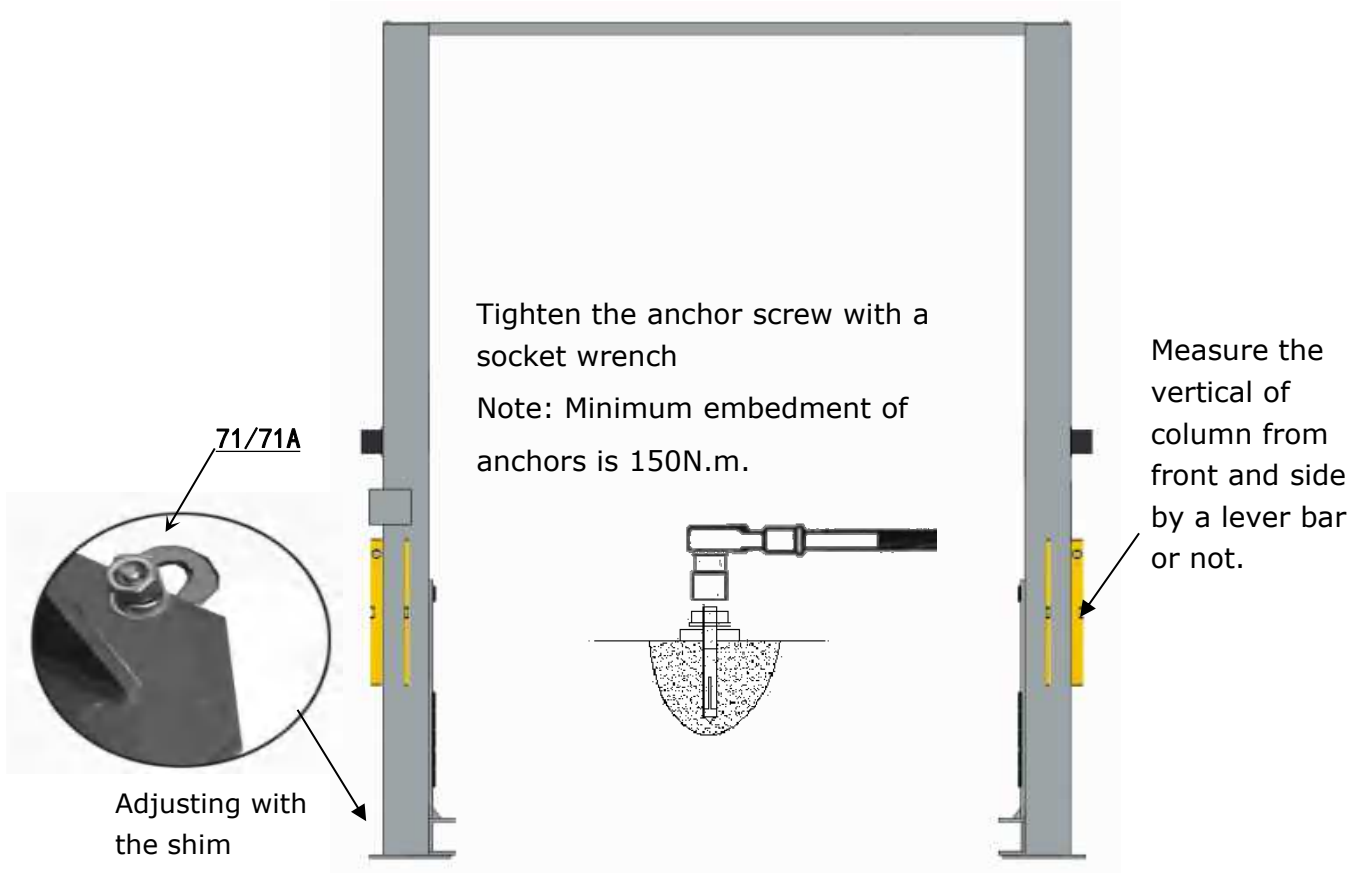

Fig.17
H. Check the vertical of the columns with level bar, and adjusting with the shims if the columns are not vertical. Tighten the anchor bolts (See Fig.17).